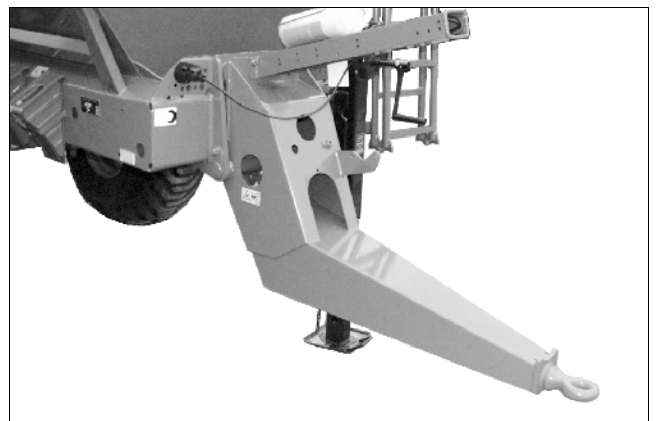

Fig. 9
- a cranked draw bar (Fig. 9),